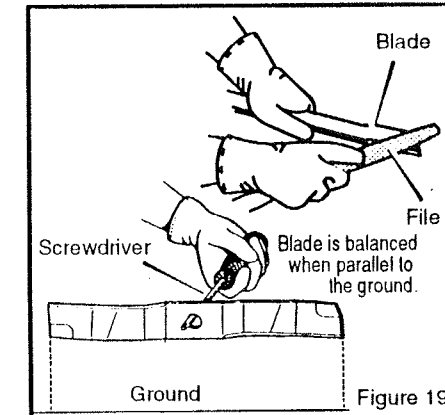

Figure 19
1. Sharpen the blade two times a year or every 25 hours (Figure 19).
4. Sharpen the **blade** with a **file**. Make sure you keep the original bevelled cutting edge (Figure 19).